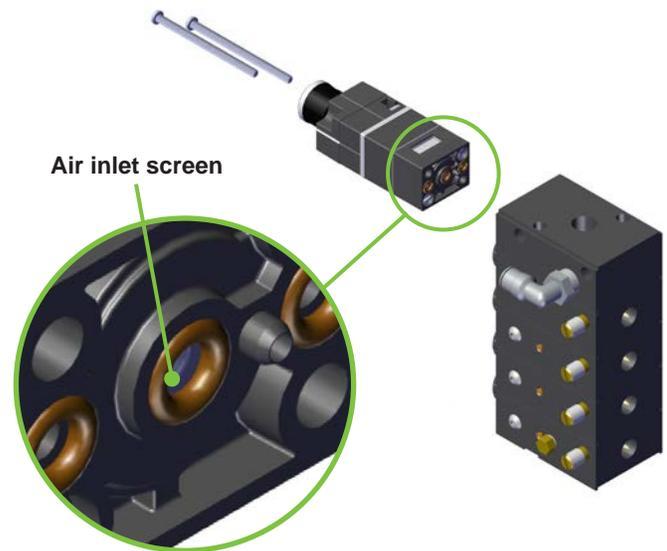

Figure 51: Air inlet screen
- Inspect the pulse generator inlet screen for debris. (See Figure 51).